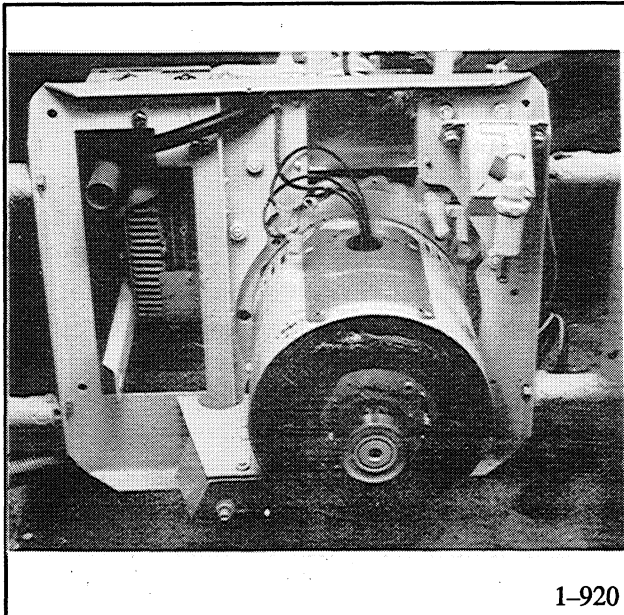

Figure 5-14. Aligning Stator.
2. Position the stator over the rotor so that it is aligned to where the circuit breaker box would go. See Figure 5-14.